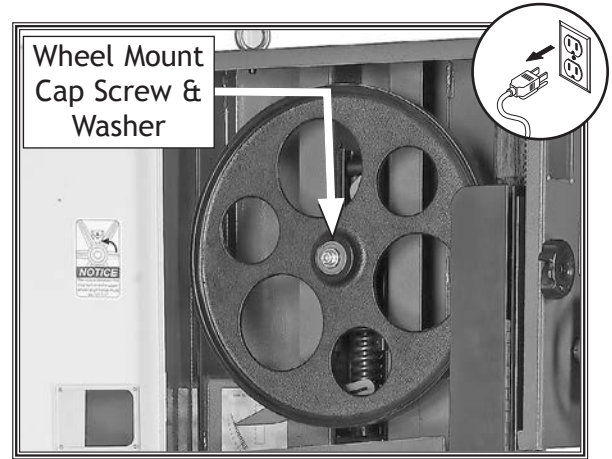

Figure 86. Location of wheel mount cap screw and washer.
3. Remove lower wheel mount cap screw and washer shown in **Figure 86**, then slide lower wheel with bearing off of shaft.